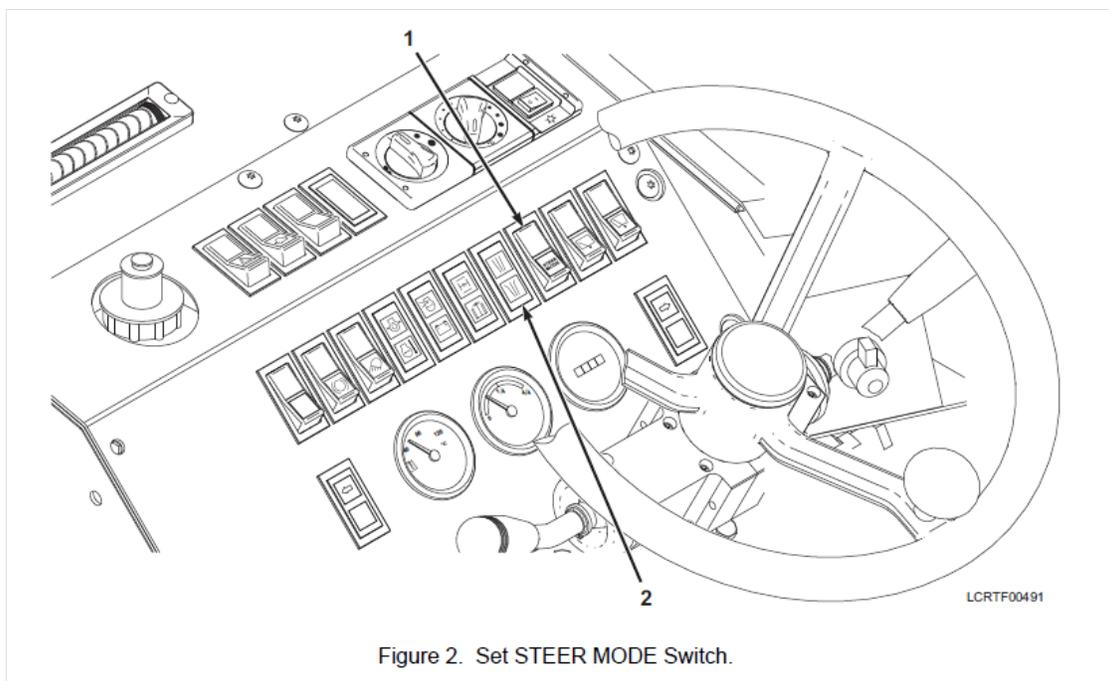

Figure 2. Set STEER MODE Switch.
d. Set STEER MODE switch (see Figure 2, Item 1) to two-wheel steer mode (down) position. Two-wheel steer mode indicator (see Figure 2, Item 2) will illuminate.